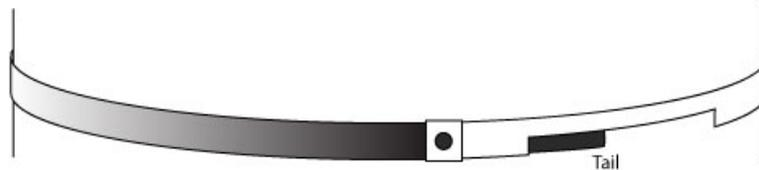

Figure 5: How the tail end fits into the head end
7. Take the band and wrap it around the tree. You will need to slide the tail end through the small opening on the head end. (see Figure 5) Wrap the band so that the band window is facing down.